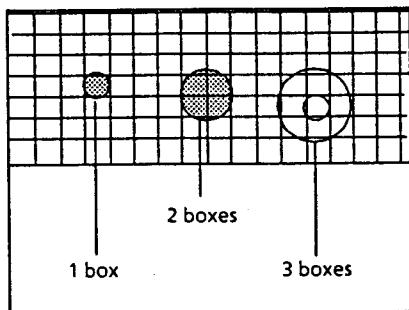

Fig. 4-29
- Adjust VR14 so that the 2 boxes of crosshatch signal becomes border color and 3 boxes of crosshatch signal becomes doughnut pattern, when adjusting the WIPE/MIX lever. (Fig. 4-29)